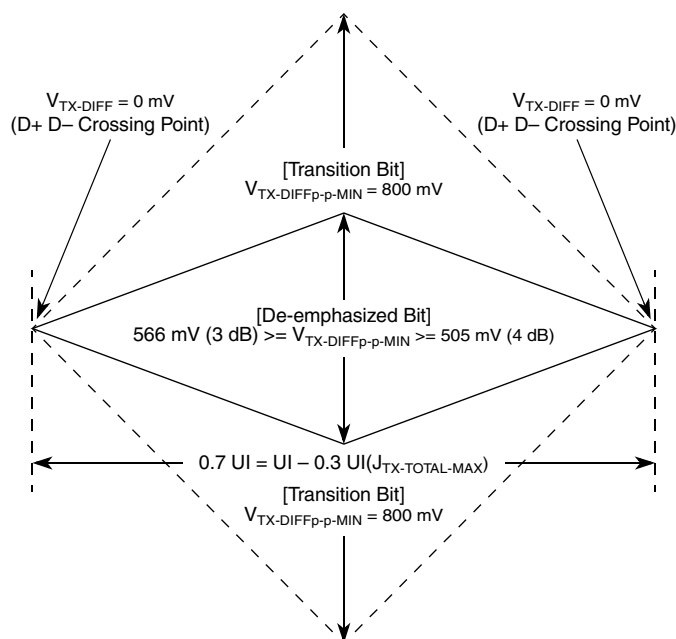
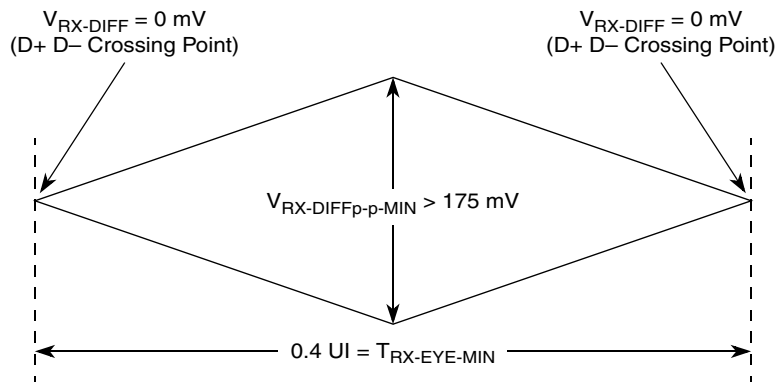
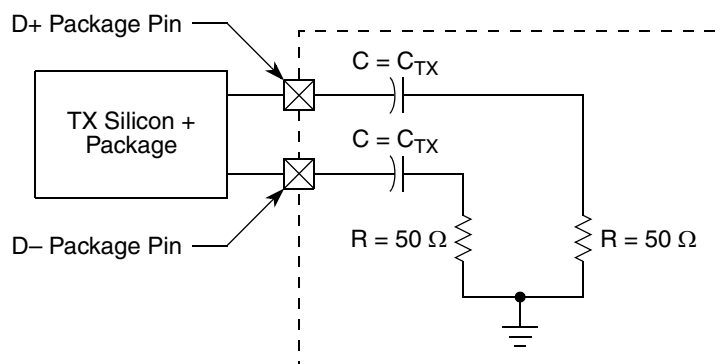

Figure 46. Minimum Transmitter Timing and Voltage Output Compliance Specifications
Figure 47. Minimum Receiver Eye Timing and Voltage Compliance Specification
Figure 48. Compliance Test/Measurement Load
- ² Specified at the measurement point into a timing and voltage compliance test load as shown in Figure 48 and measured over any 250 consecutive Tx UIs. (Also refer to the transmitter compliance eye diagram shown in Figure 46.)
- ⁴ The transmitter input impedance will result in a differential return loss greater than or equal to 12 dB and a common mode return loss greater than or equal to 6 dB over a frequency range of 50 MHz to 1.25 GHz. This input impedance requirement applies to all valid input levels. The reference impedance for return loss measurements is 50 Ω to ground for both the D+ and D– line (that is, as measured by a vector network analyzer with 50- Ω probes, see Figure 48). Note that the series capacitors, C_{TX} , is optional for the return loss measurement.
- ⁵ Measured between 20%–80% at transmitter package pins into a test load as shown in Figure 48 for both V_{TX-D+} and V_{TX-D-} .
The Tx eye diagram in Figure 46 is specified using the passive compliance/test measurement load (see Figure 48) in place of any real PCI Express interconnect + Rx component. There are two eye diagrams that must be met for the transmitter. Both diagrams must be aligned in time using the jitter median to locate the center of the eye diagram. The different eye diagrams differ in voltage depending on whether it is a
- ² Specified at the measurement point and measured over any 250 consecutive UIs. The test load in Figure 48 should be used as the Rx device when taking measurements (also refer to the receiver compliance eye diagram shown in Figure 47). If the clocks to the Rx and Tx are not derived from the same reference clock, the Tx UI recovered from 3500 consecutive UI must be used as a reference for the eye diagram.
- ⁴ The receiver input impedance will result in a differential return loss greater than or equal to 10 dB with the D+ line biased to 300 mV and the D– line biased to –300 mV and a common mode return loss greater than or equal to 6 dB (no bias required) over a frequency range of 50 MHz to 1.25 GHz. This input impedance requirement applies to all valid input levels. The reference impedance for return loss measurements for is 50 Ω to ground for both the D+ and D– line (that is, as measured by a vector network analyzer with 50- Ω probes, see Figure 48). Note that the series capacitors, C_{TX} , is optional for the return loss measurement.
The Rx eye diagram in Figure 47 is specified using the passive compliance/test measurement load (see Figure 48) in place of any real PCI Express Rx component. In general, the minimum receiver eye diagram measured with the compliance/test measurement load (see Figure 48) is larger than the minimum receiver eye diagram measured over a range of systems at the input receiver of any real PCI Express component. The degraded eye diagram at the input receiver is due to traces internal to the package as well as silicon
parasitic characteristics that cause the real PCI Express component to vary in impedance from the compliance/test measurement load. The input receiver eye diagram is implementation specific and is not specified. Rx component designer should provide additional margin to adequately compensate for the degraded minimum receiver eye diagram (shown in Figure 47) expected at the input receiver based on an adequate combination of system simulations and the return loss measured looking into the Rx package and silicon. The Rx eye diagram must be aligned in time using the jitter median to locate the center of the eye diagram.
The reference impedance for return loss measurements is 50 Ω to ground for both the D+ and D– line (that is, as measured by a Vector Network Analyzer with 50 Ω probes—see Figure 48). Note that the series capacitors, C_{PEACCTX}, are optional for the return loss measurement.
The AC timing and voltage parameters must be verified at the measurement point, as specified within 0.2 inches of the package pins, into a test/measurement load shown in Figure 48.